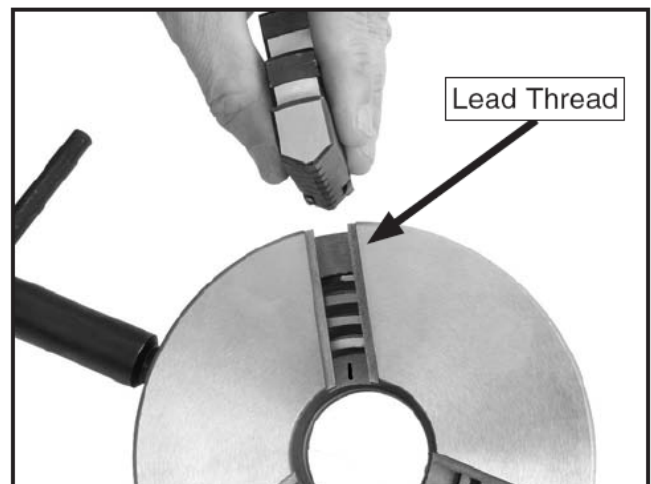

Figure 17
3. Insert the chuck key into a scroll keyway and rotate it until you see the beginning of the scroll gear's lead thread come into view through the #1 jaw guide, then back it off slightly until it disappears (**see Figure 17**).